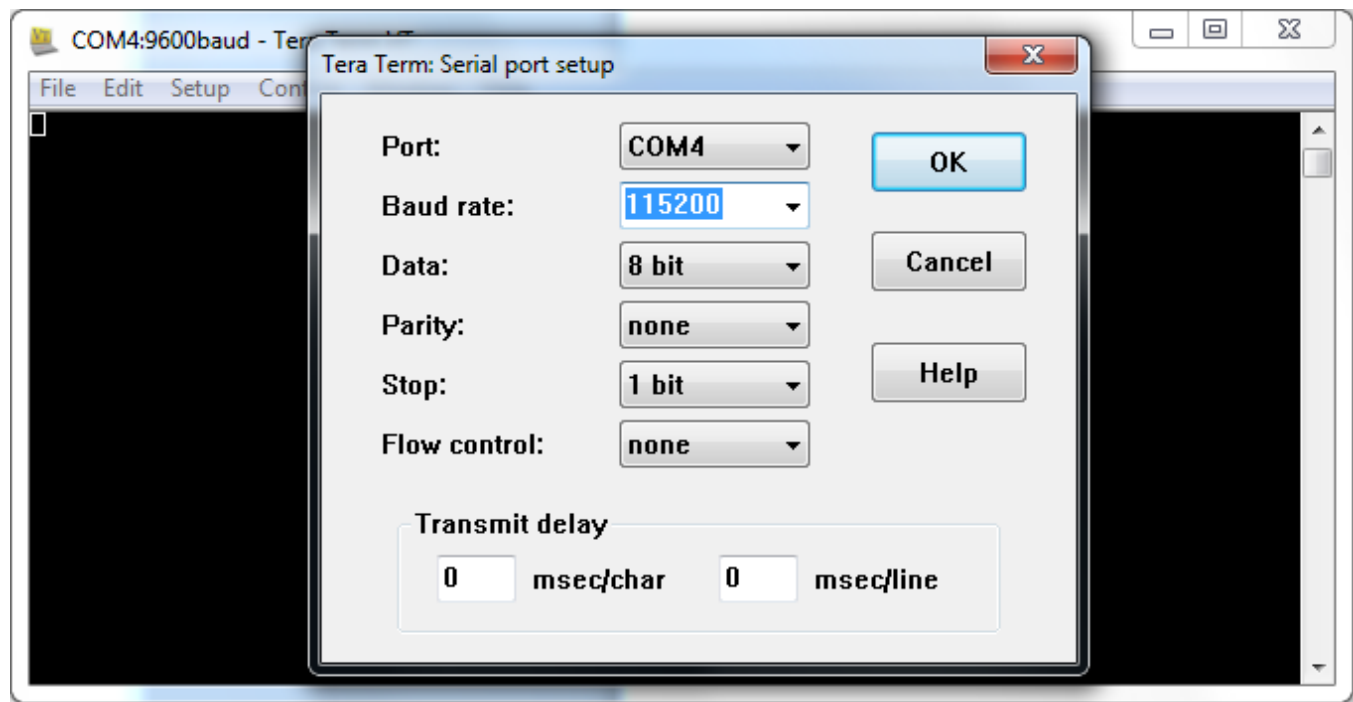

Figure 14. Tera Term Serial Port Setup
- In the menu, select Setup>Serial Port, and change the baud rate to 115200 as shown in Figure 14.